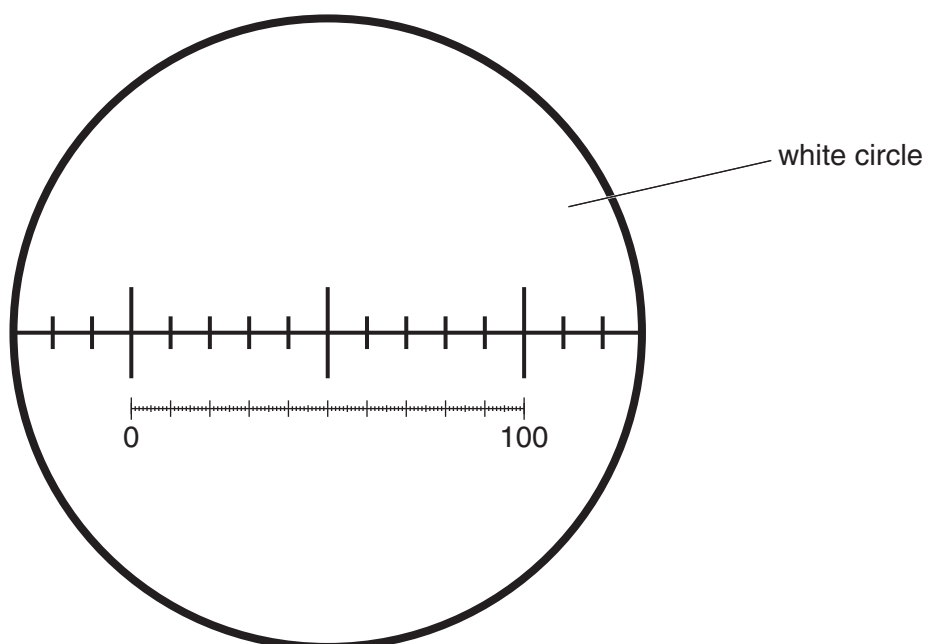
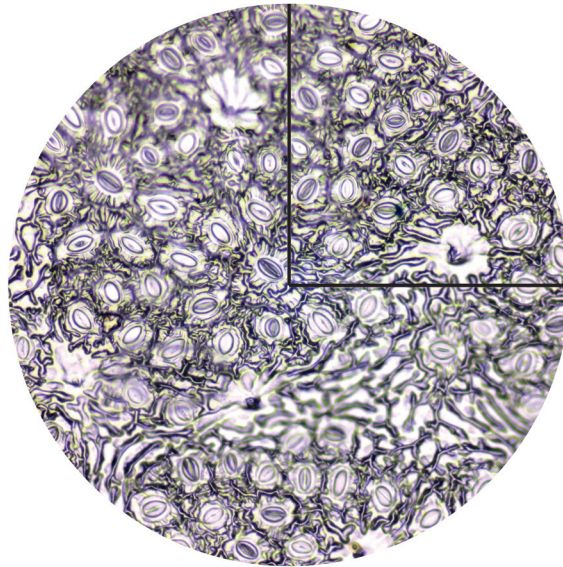
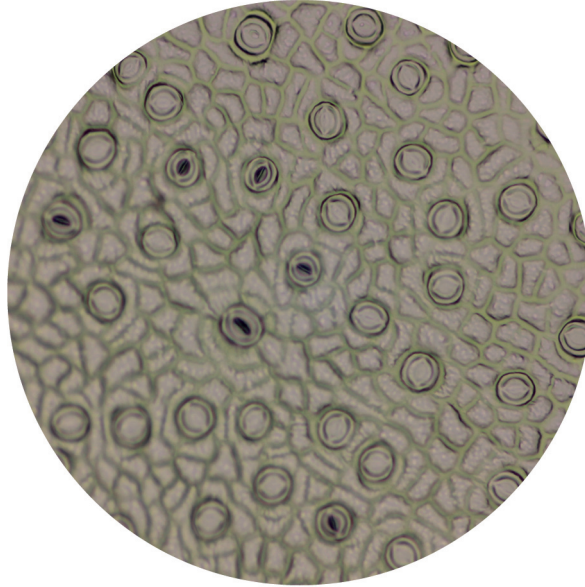

Fig. 2.2
Fig. 2.3
Fig. 2.4
Fig. 2.2 shows a stage micrometer viewed through a microscope with an eyepiece graticule scale.
- find the area of the field of view, using Fig. 2.2
- count the number of stomata in a quarter of the field of view, using Fig. 2.3 (on page 14)
Fig. 2.3 is a photomicrograph of the lower surface of a leaf, with the same field of view as in Fig. 2.2.
Fig. 2.3 shows stomata on a leaf surface. There are too many stomata to count so the technique of sampling may be used to estimate the number of stomata in the field of view.
(ii) Count and record the **sample number** of stomata in the quarter of the field of view shown in Fig. 2.3.
- Mark clearly **on Fig. 2.3** each of the stomata counted.
Fig. 2.4 is a photomicrograph of the lower surface of a different leaf, with the same field of view (using the same lenses) as Fig. 2.3.
- (c) Prepare the space below so that it is suitable for you to record the observable differences between the surface of each leaf shown in Fig. 2.3 and Fig. 2.4.